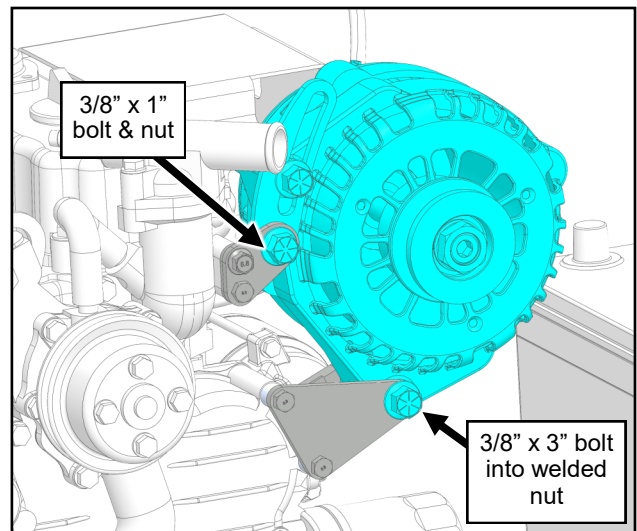

Fig. 3.8 (Alternator and Adjustment Plate)
- 3.8 Install the new alternator and adjustment plate to the brackets with (2) 3/8" bolts and nuts per Figure 3.8.